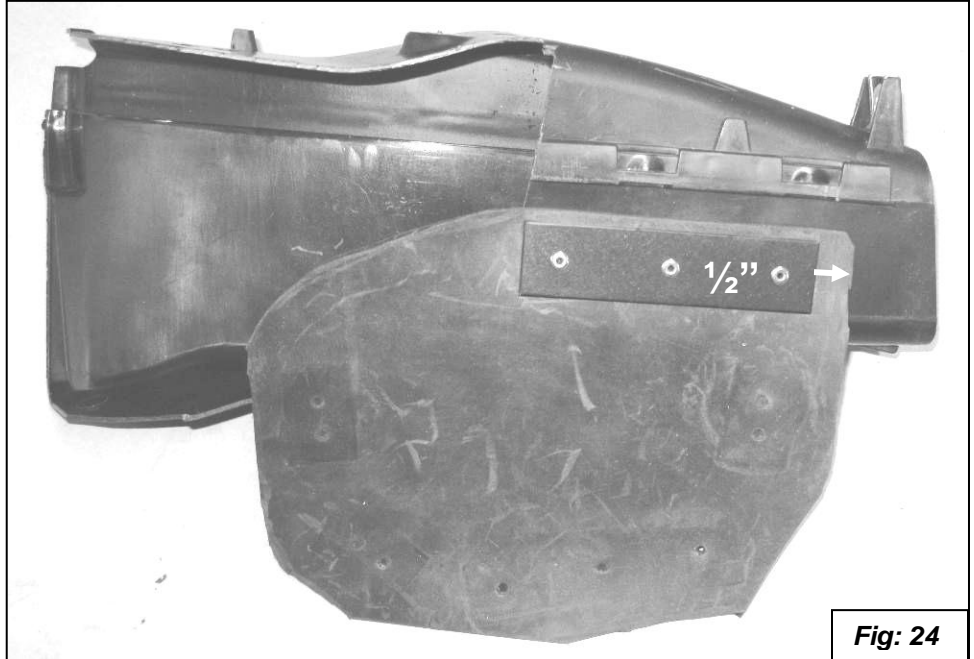

Fig: 24
20. Rivet the rubber cover to the brake duct as shown in **Figure 24 thru 27**. Start as shown in figure 24 and work your way around the duct. Align the edge with the seam. Leave $\frac{1}{2}$ " extra rubber at the end.